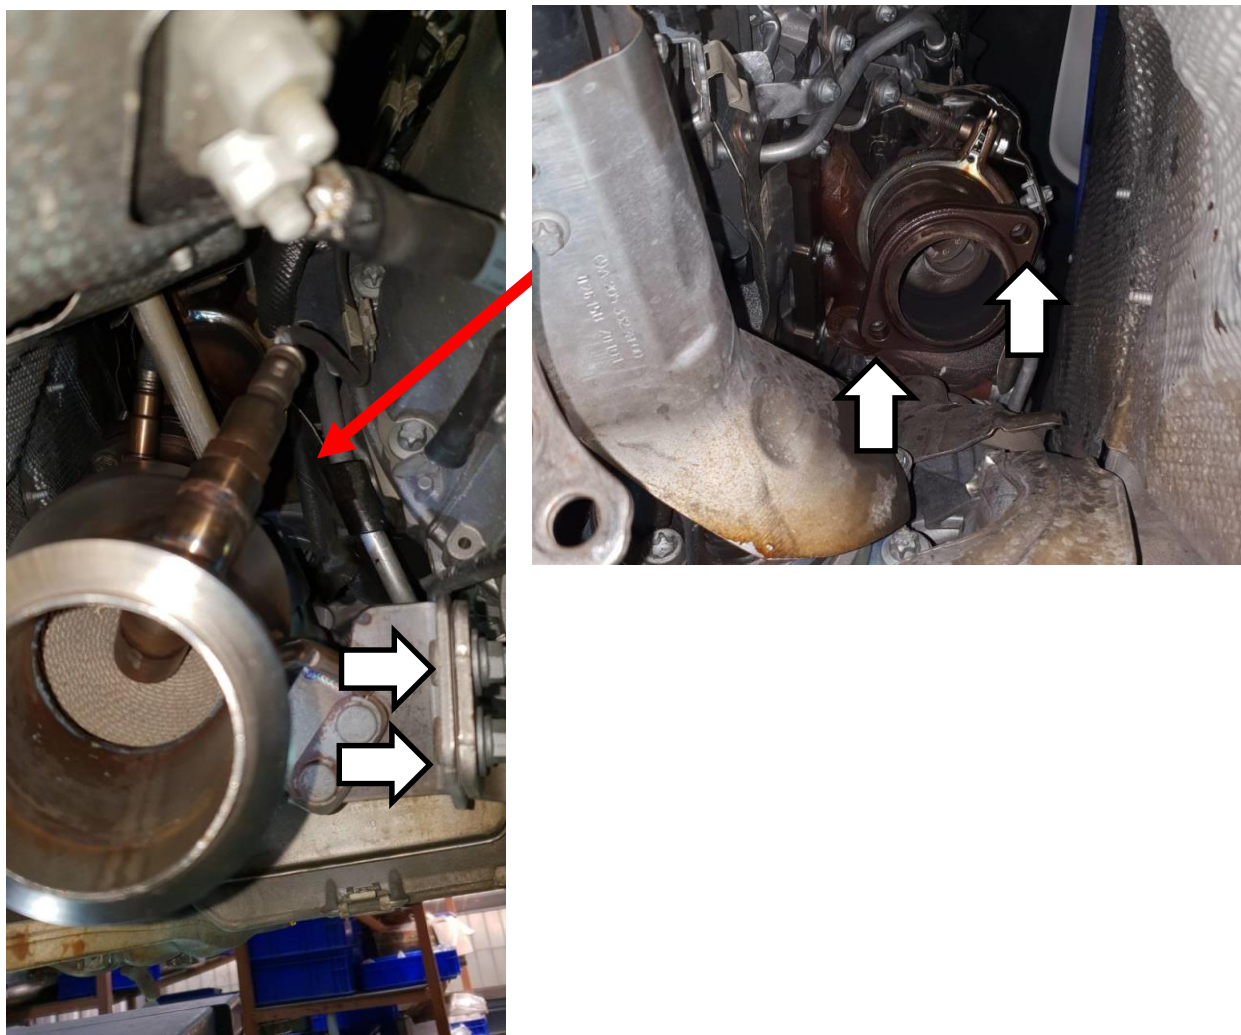

Figure 8
8. After confirming that the oxygenated plug is removed, remove the screw from connecting cat pipe to the Exhaust manifold header, then remove the fixing bracket screw, then remove cat pipe(Figure 8).